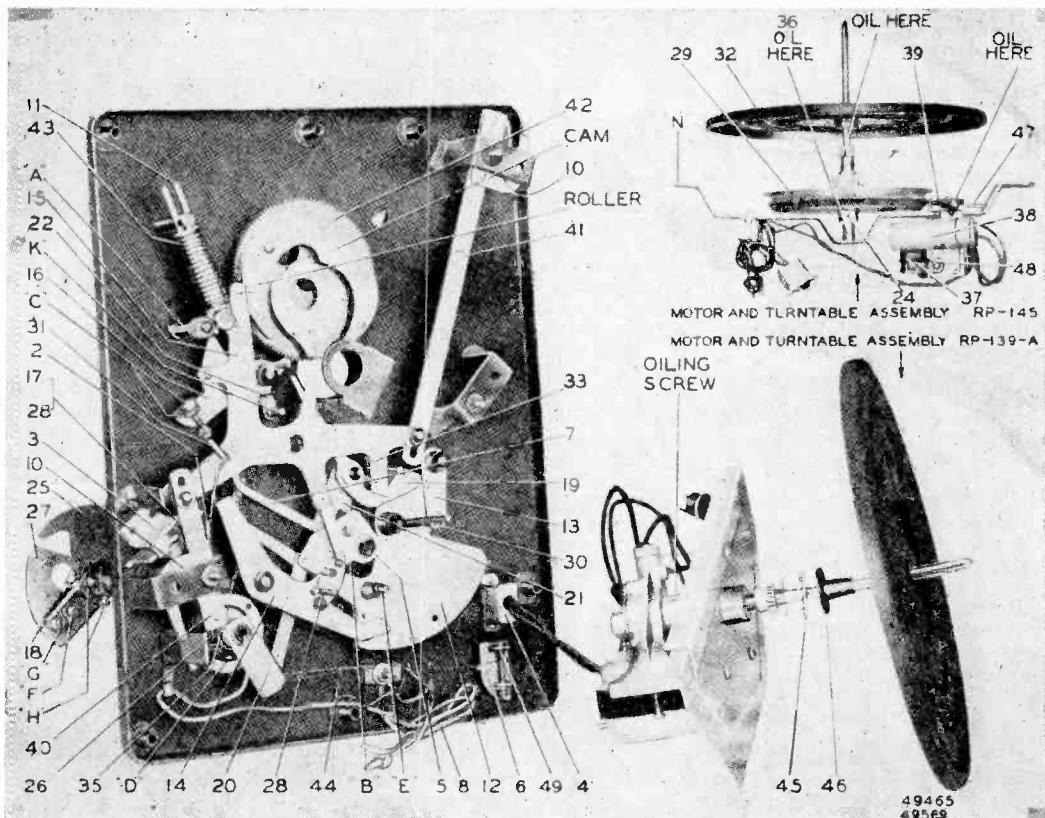
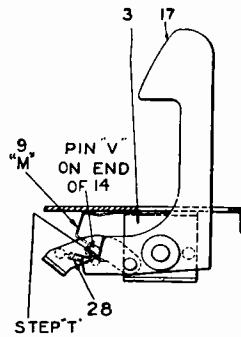

Fig. 1—The RCA Model RP-145 Record Changer
Fig. 2
ANOTHER popular record changer is the RCA RP-139-A and RP-145 shown in Fig. 1. The RP-139-A and RP-145 automatic record changers are very similar in design and construction. Most of the parts and adjustments are identical on both. The RP-139-A turntable is driven through a worm gear in the motor housing while the RP-145 turntable is driven through a friction drive disc mounted on the turntable spindle.
The RP-145 turntable is not removable from the spindle. However, the rubber tire driving disc is fastened to the spindle by means of a tapered pin (see 24, Fig. 1). If necessary to remove these parts, the tapered pin should first be removed. The driving disc can then be removed from the spindle, and the turntable and spindle assembly is lifted upward from the motorboard. If this is done, great care should be taken not to bend the spindle. At the same time the spindle bearing should be oiled and the cup and ball thrust bearing oiled and checked for proper position. Before
B. Friction Clutch.—The motion of the tone arm toward the center of the record is transmitted to the trip pawl (22) by the trip lever (7) through a friction clutch (5). If the motion of the pickup is abruptly accelerated or becomes irregular, due to swinging in the eccentric groove, the trip finger (7) moves the trip pawl (22) into engagement with the pawl on the main gear, and the change cycle is started. Proper adjustment of the friction clutch (5) occurs when movement of the tone arm causes positive movement of the trip pawl (22) without tendency of the clutch to slip. The friction should be just enough to prevent slippage, and is adjustable by means of screw (B). If adjustment is too tight, the needle will repeat grooves; if too loose, tripping will not occur at the end of the record.
C. Pickup Lift Cable Screw.—During the record change cycle, lever (16) is actuated by the main lever (15) so as to raise the tone arm clear of the record by means of the pickup lift cable. To adjust pickup for proper elevation, stop the changer "in-cycle" at the point where pickup is raised to the maximum height above turntable plate, and has not moved outwards; at this point adjust locknut (C) to obtain 1 inch spacing between needle point and turntable top surface.
D. & E. Needle Landing on Record.—The relation of coupling between the tone arm vertical shaft and lever (20) determines the landing position of the needle on a 10 inch record. The position of eccentric stud (E) governs the landing of the needle on a 12 inch record; this, however, is dependent on the proper 10 inch adjustment.
To adjust for needle landing, place 10 inch record on turntable; push index lever to reject position and return to the 10 inch position. Referring to Fig. 2, see that pickup locating lever (17) is tilted fully toward turntable; rotate mechanism through cycle until needle is just ready to land on the record; then see that pin (V) on lever (14) is in contact with "Step T" on lever (17). The correct point of landing is 4 & 5/8 inches from the nearest side of the turntable spindle. Loosen the two screws (D), see Fig 1, and adjust horizontal position of tone arm to proper dimension, being careful not to disturb levers (14) and (17). Leave approximately 1/32 inch end play between hub of lever (20) and pickup base bearing, and tighten the blunt nose screw (D); run mechanism through several cycles as a check, then tighten cone pointed screw (D).